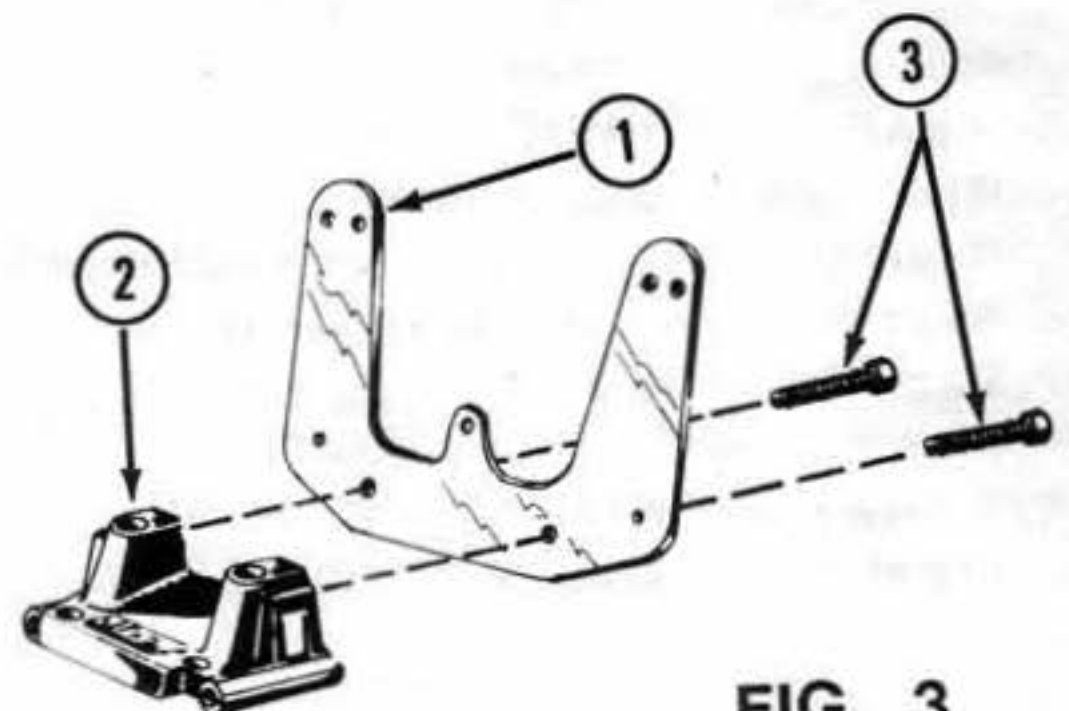

FIG. 3
4. Secure front shock tower (1) to front bulkhead (2) using two 4-40 X 3/8" socket head screws (3). Fig.3